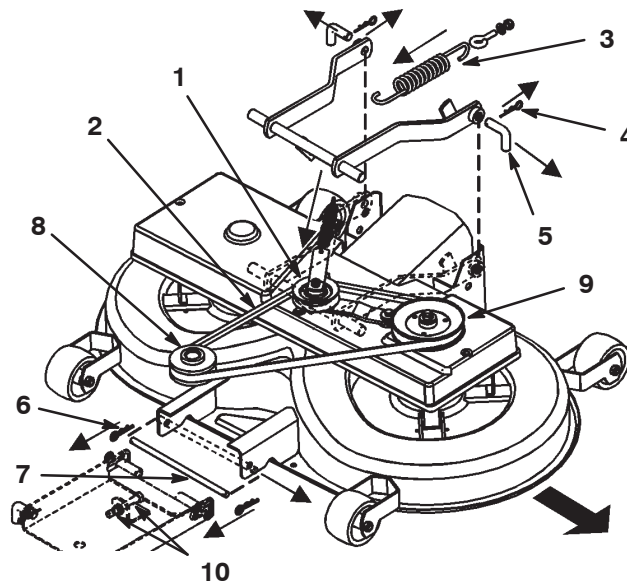

Figure 36
8. Pull the idler arm assembly in and remove the V-belt from the pulley (Fig. 36).
9. Disconnect the spring from the engagement lever (Fig. 36).
11. Remove the hairpin clips from the 2 rear pins and remove the pins (Fig. 36).
12. Remove the hairpin clip from the front pin and remove the pin (Fig. 36).
13. Remove the V-belt from the engine pulley (Fig. 36).
2. Remove the V-belt pulley and the idler arm assembly (Fig. 36).
7. Move the lower pin of the front adjustment suspension into the bottom position of the slotted holes by adjusting the 2 nuts (M12) on the front suspension (Fig. 36).